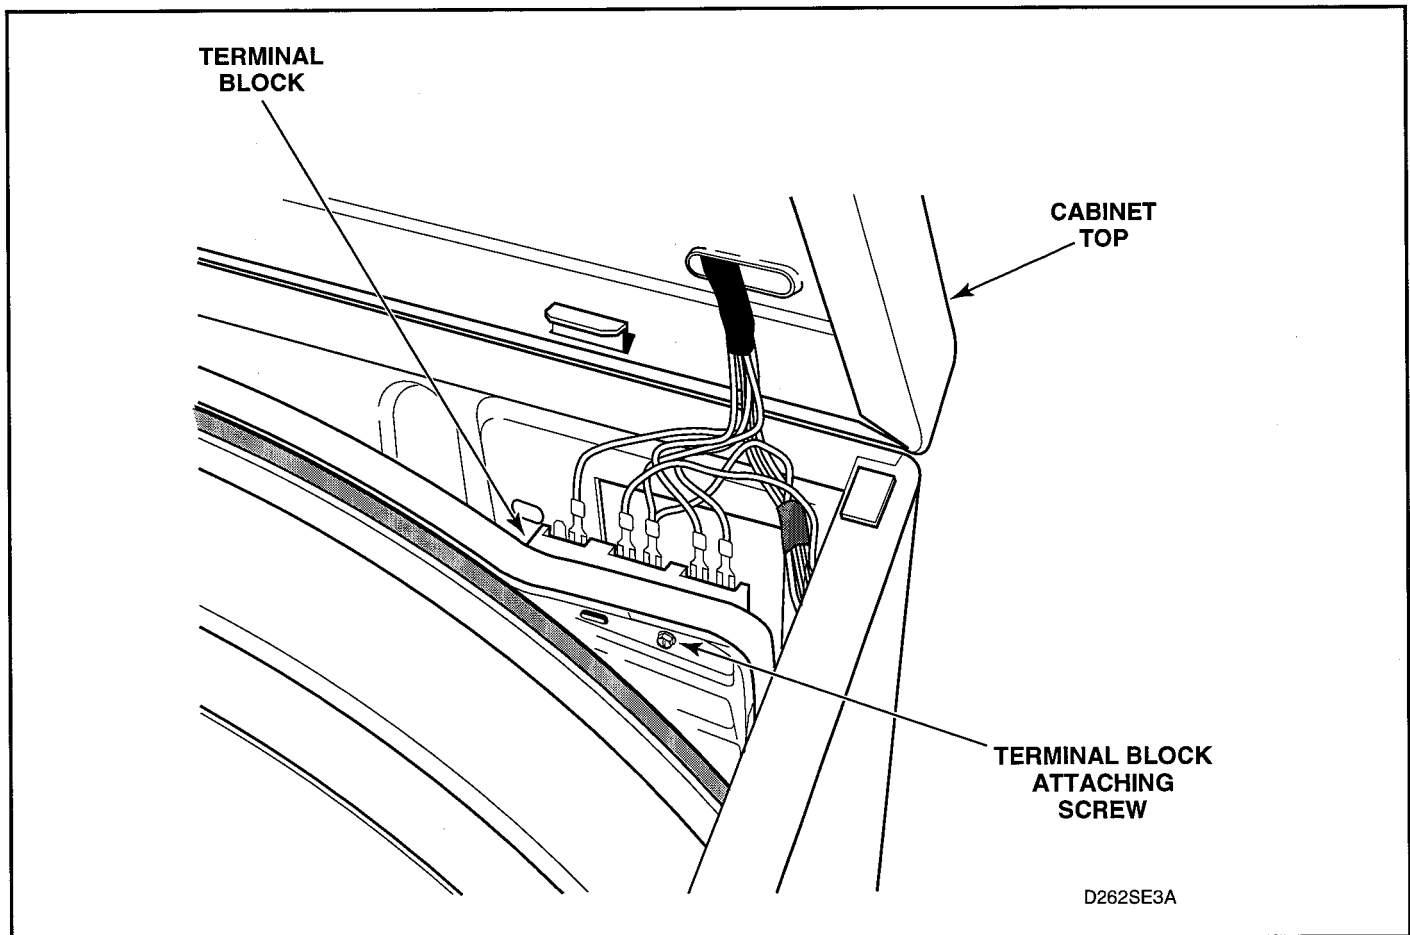

Figure 5-30
8. Remove screw holding terminal block to rear bulkhead. See figure 5-30.